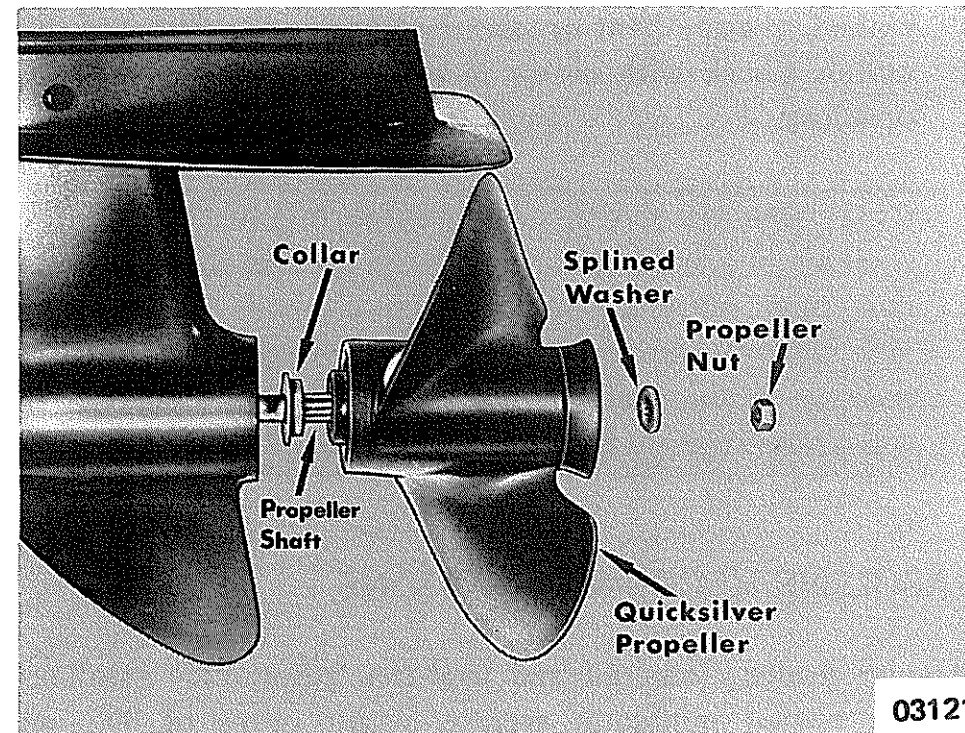

Figure 5. Propeller Removal and Installation
3. Place washer and nut (Figure 5) on end of propeller shaft and tighten nut securely.
2. Remove propeller shaft nut and washer. (Figure 5)